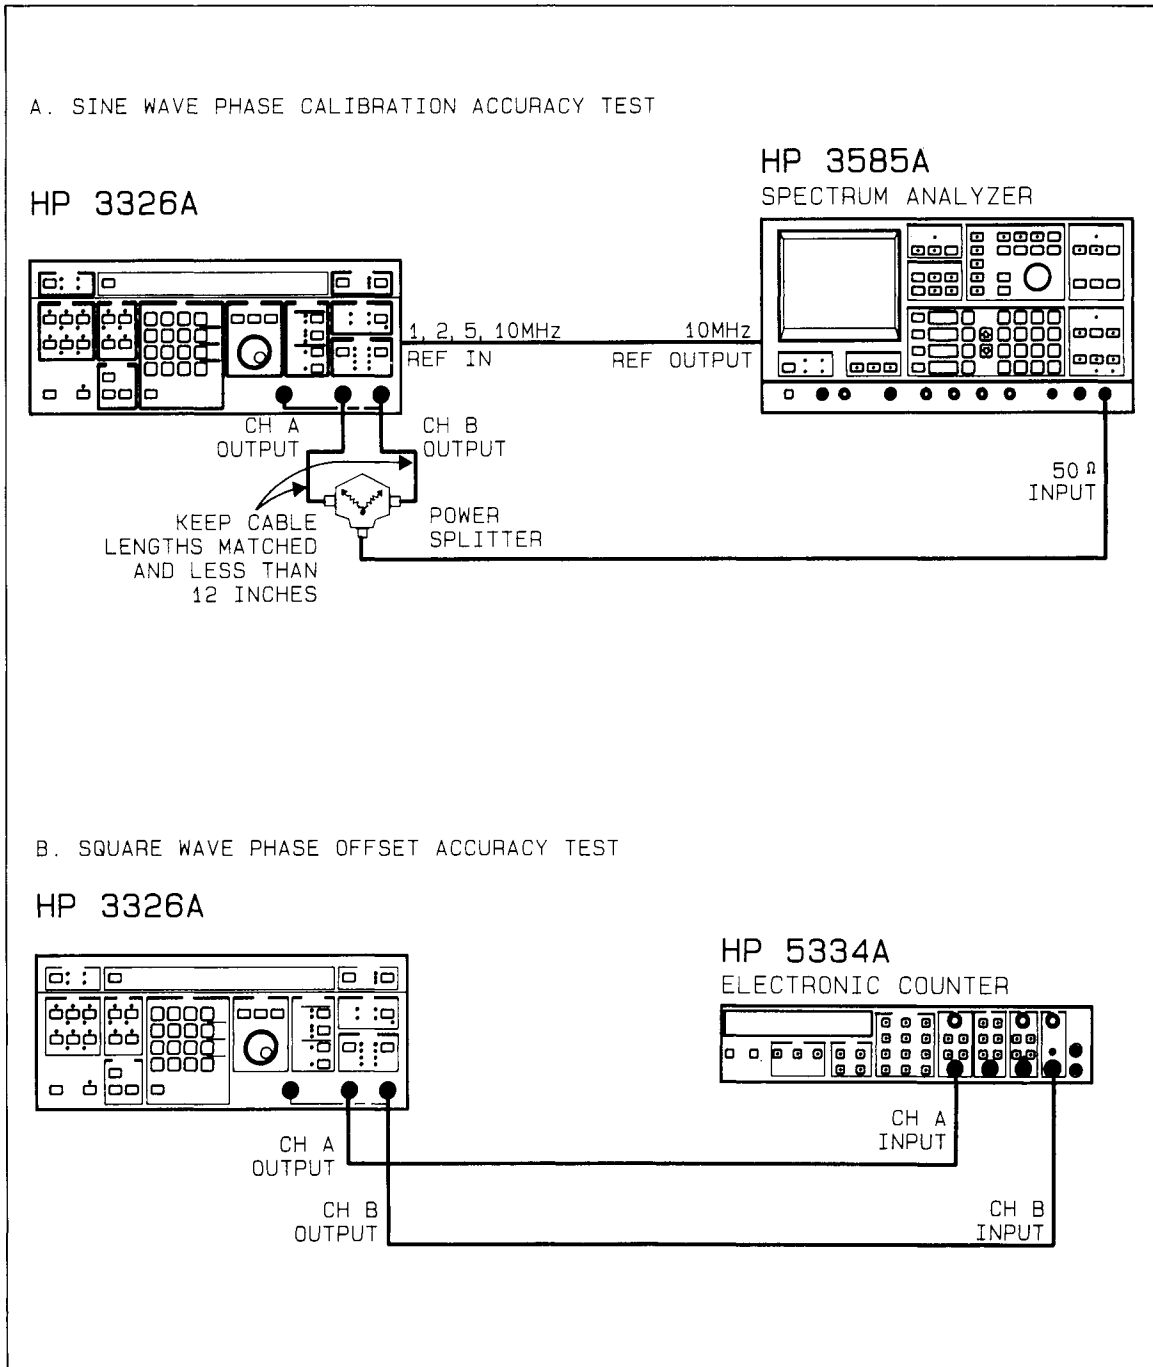

Figure 2-16. Phase Offset Accuracy Test
2. Connect the equipment as follows (illustrated in Figure 2-16(A)):
2. Connect the equipment as follows (illustrated in Figure 2-16(B)):